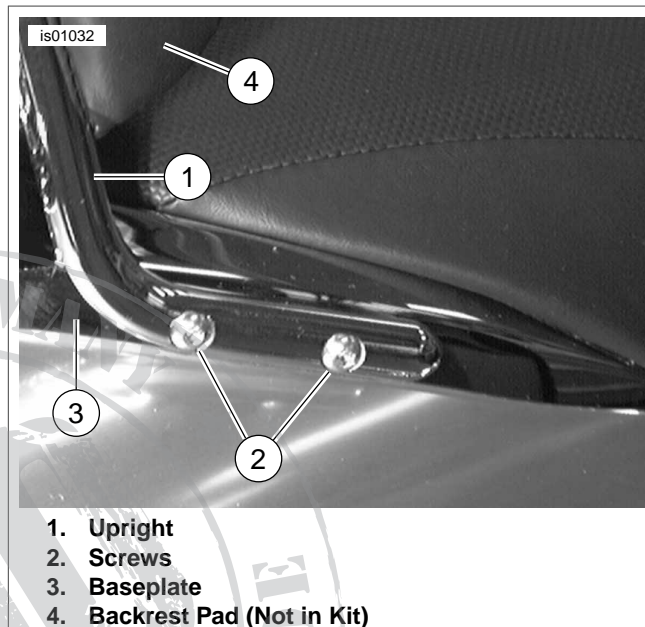

Figure 1. Install Upright to Baseplate (Right Side of Low Upright Shown)
2. See Figure 1. Obtain the four button head cap screws (2) and the upright (1).